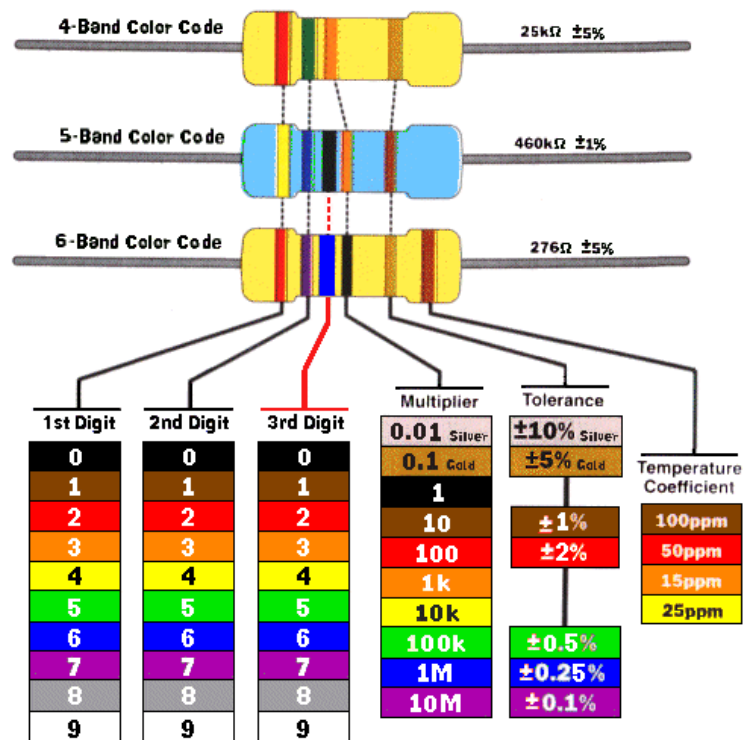

Figure 2.1: Resistance Colour Code
Resistors: Resistors are cylindrical shaped components with leads at either end. The resistance in ohms (Ω) associated with the resistor is specified by a colour code (see Figure 2.1) in the form of bands painted on the body of the resistor.
2. Using Figure 2.1, determine the values of these resistances.
2. Using figure 2.1, determine the values of these resistances.